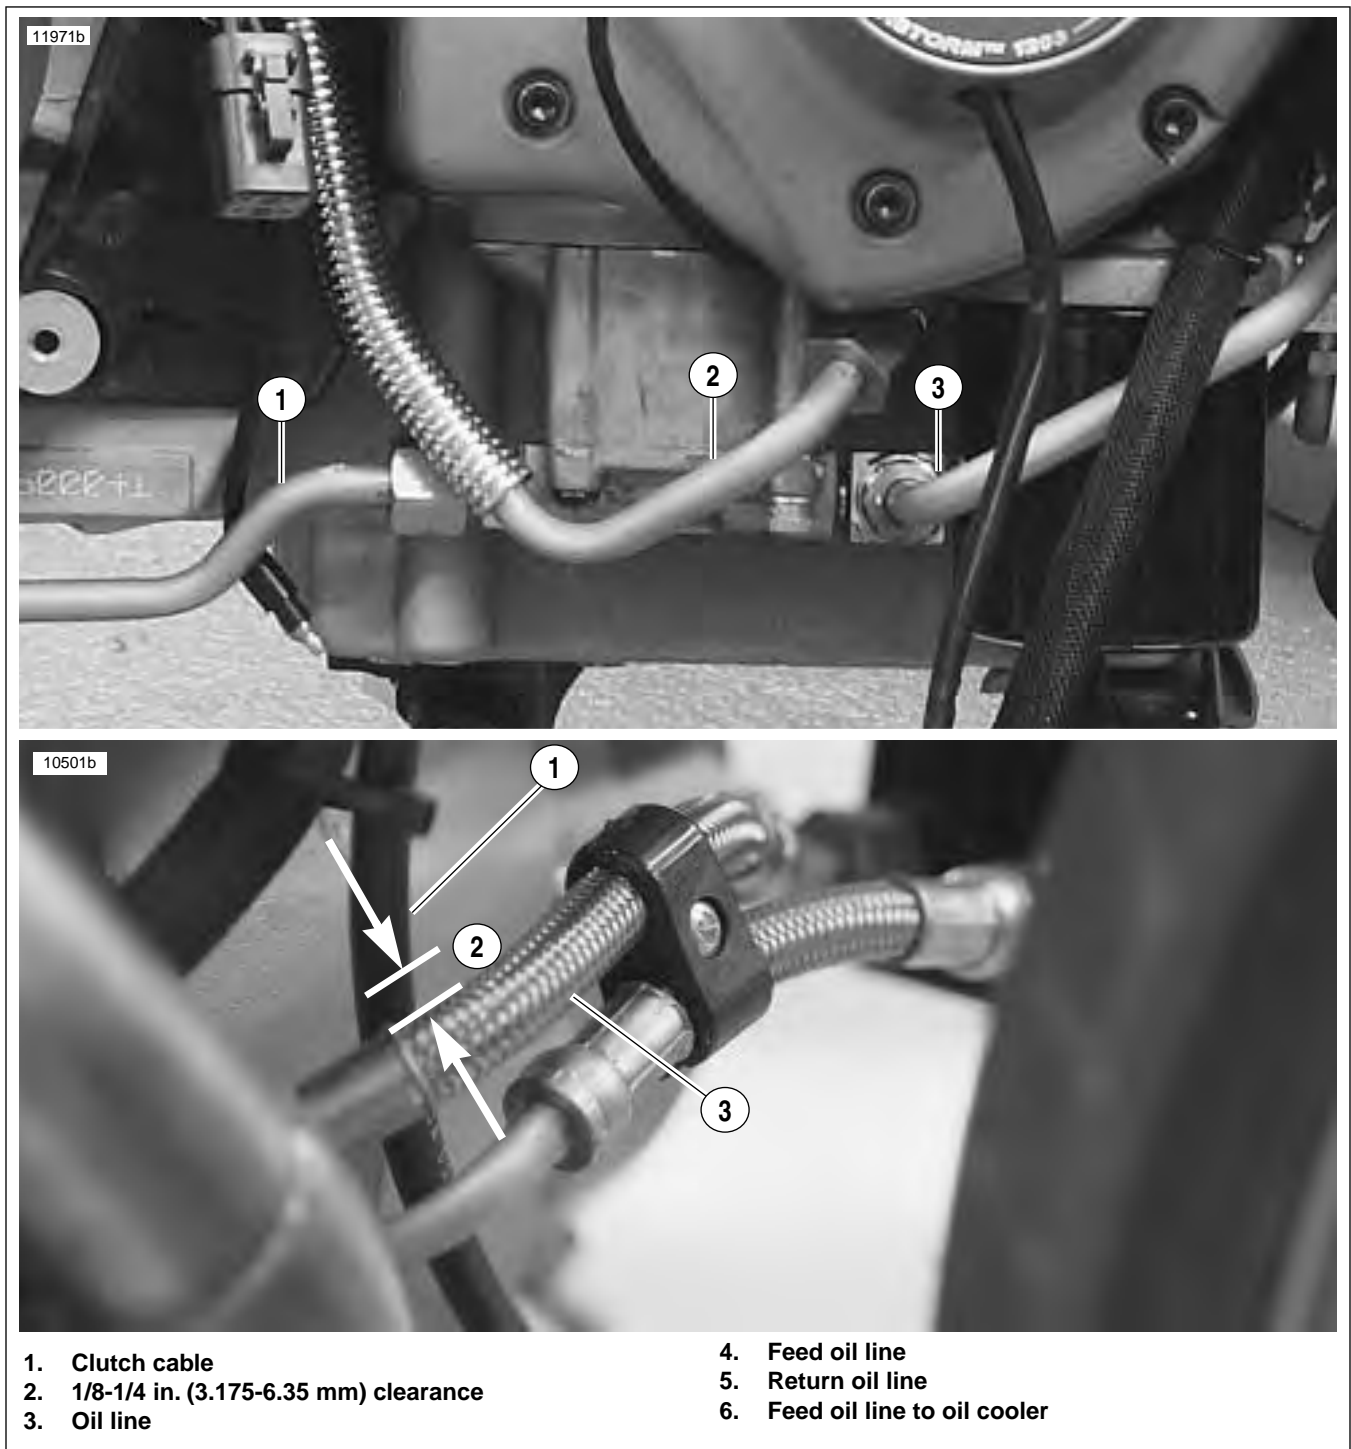

Figure 3-48. Oil Cooler Feed Oil Line Orientation (Approximately 2 O'Clock) and Oil Line Clearances
28. See Figure 3-48. Loosely install the feed oil line that runs from the lower front oil pump fitting to the rear fitting on the oil cooler.
See Figure 3-48. It is important to maintain an orientation of approximately 2 o'clock with the rigid part of the feed oil line (3) running to the oil cooler. Also be aware of the 1/8-1/4 (3.175-6.35 mm) clearance specified between the feed oil line and the clutch cable at the front of the crankcase.